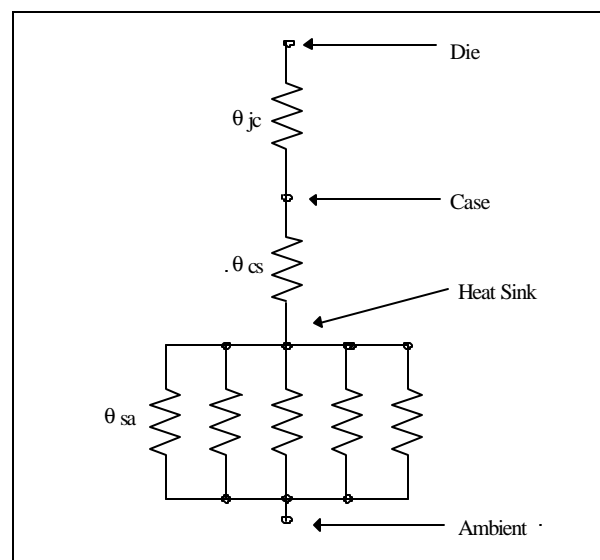

Figure 3 Thermal flow path of a transistor to heat sink
- 1.3. Of equal importance to the transistor junction to case thermal resistance is the thermal resistance between the transistor and the environment. Each of the interfaces and layers of material in the heat flow path must be carefully investigated to insure the proper thermal design. Fig 3 is a thermal flow chart of a transistor - heat sink combination. The thermal resistance in the heat flow part are θ_{jc} (transistor to case), θ_{cs} (transistor case to heatsink), and θ_{sa} heatsink. All are very important. The thermal resistance numbers for case to heat sink θ_{cs} vary for different package configurations as shown below:-